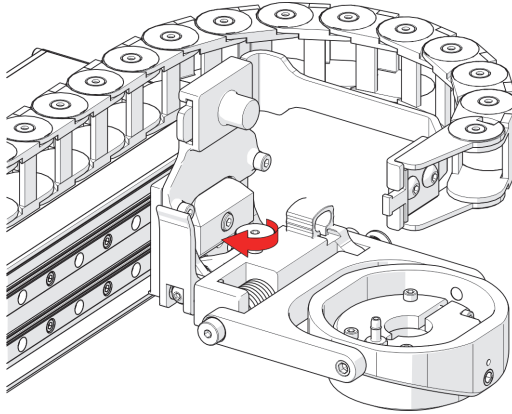

Figure 2-39 Tighten knob
5. Tighten the probe holder adjustment knob (see Figure 2-39 on page 75).